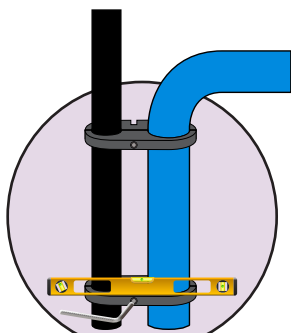

Fig 4.
5. Ensure that both the clamps are horizontal by using a spirit level, once level tighten up the bolts. (see fig 4).